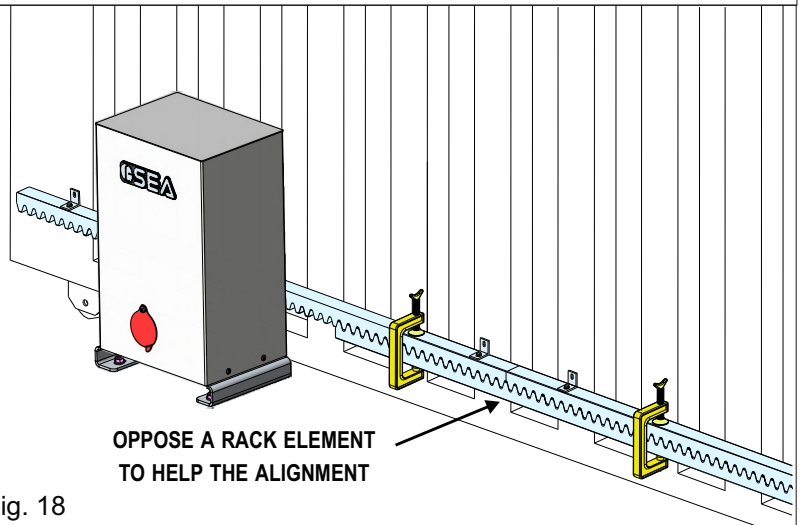

Fig. 18
- 6.6. Make sure that all the rack elements are perfectly aligned and correctly placed (**THE TEETH MUST BE IN PHASE**). It is suggested to oppose an element to two consecutive elements to ensure the perfect alignment as shown in Fig. 18